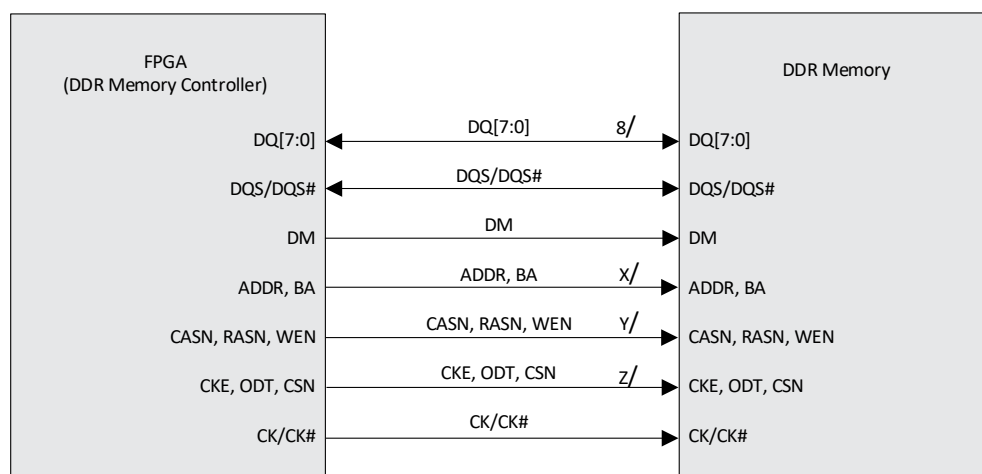

Figure 6.1. Typical DDR3/DDR3L Memory Interface
Figure 6.1 shows typical DDR memory signals. DDR3, DDR3L, and LPDDR2 memory interfaces are typically implemented with eight DQ data bits per DQS. Therefore, a 16-bit DDR memory interface uses two DQS signals, and each DQS is associated with eight DQ bits, respectively. Both the DQ and DQS are bi-directional ports and are used to read and write to the memory.
DDR memories also require a Data Mask (DM) signal to mask data bits during write cycles. Note that the ratio of DQS to data bits is independent of the overall width of the memory. Figure 6.1 shows a typical 8-bit interface that has eight associated DQ data bits per DQS strobe signal.